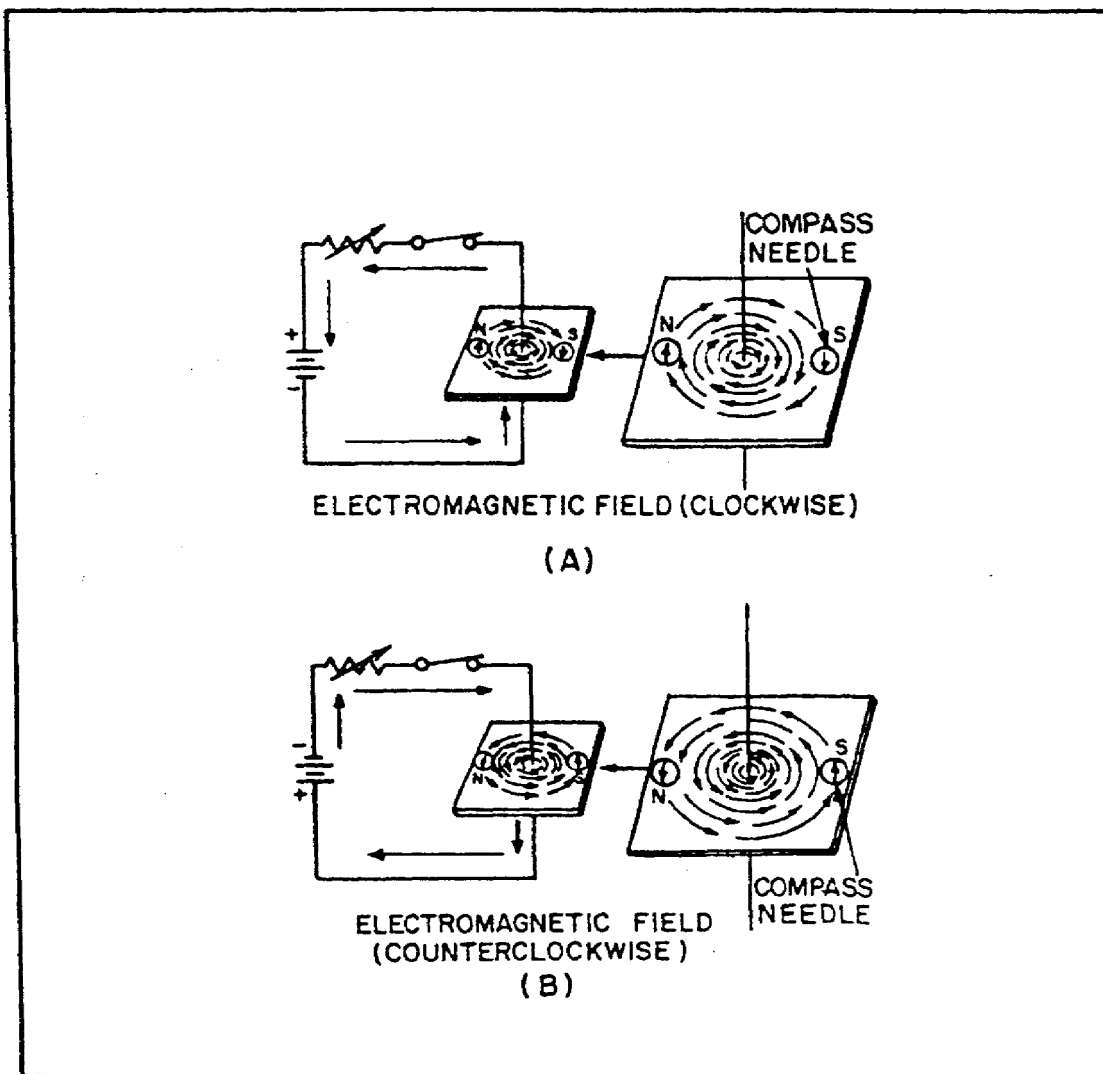

FIGURE 53. MAGNETIC FIELD AROUND A CURRENT-CARRYING CONDUCTOR.
If a compass is placed in the vicinity of a current-carrying conductor, the compass needle will align itself at right angles to the conductor, thus indicating the presence of a magnetic force. One can demonstrate the presence of this force by using the arrangement illustrated in figure 53. In both view A and view B of figure 53, current flows in a vertical conductor through a horizontal piece of cardboard. One can determine the direction of
In figure 53, view A, on the previous page, the needle deflections show that a magnetic field exists in the circular form around the conductor. When the current flows upward (figure 53, view A), the direction of the field is clockwise, as viewed from the top. However, if you reverse the polarity of the battery so that the current flows downward (figure 53, view B), the direction of the field is counterclockwise.
(1) *Polarity of an Electromagnetic Coil.* In figure 53 on page 79, we observed that the direction of the magnetic field around a straight wire depends on the direction of current in that wire. Thus, a reversal of current in a wire causes a reversal in the direction of the magnetic field that is produced. It follows that a reversal of the current in a coil also causes a reversal of the two-pole magnetic field about the coil.